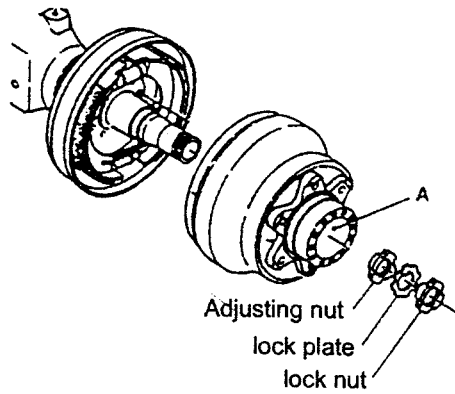

Fig4.2 Add grease
(1) Fill the chamber of wheel hub with 1/3-2/3 cubage lithium base grease (about 100 cc), then fit the hub on the shaft. (Fig 4.2)
(2) Screw down the adjusting nut with a torque for about 1kg.m and then loosen it for 1/2 turn.
(3) Put the spring balance up on the bolt to measure the hubs' starting torque. When the starting torque arrives to the specified value, lock the nuts slowly.